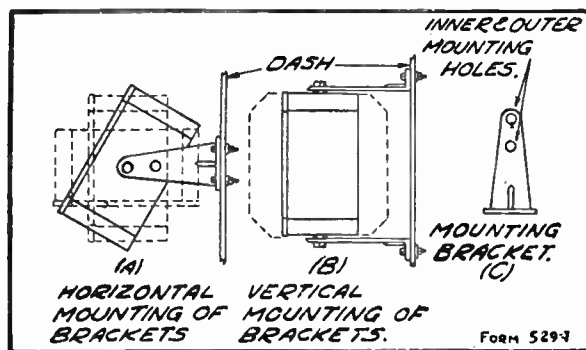

Fig 5—Method of Mounting Speaker
The speaker-"B" eliminator is mounted on the back of the dash by means of two brackets, as shown in Fig. 5. Usually the space available will govern the location of the speaker and position of it on the mounting brackets. However, the matter of acoustics should be given careful consideration. One of the most desirable positions from the standpoint of
After the position of the speaker is decided on, drill the four $\frac{5}{16}$ " holes required for the bracket mounting bolts. A template for these holes is supplied with the receiver. The holes are arranged in a rectangle. The centers of the holes, the small dimension are $2\frac{3}{8}$ " apart and the long dimension 10" apart. In Fig. 5 is shown how the brackets can be mounted horizontally (A) or vertically (B), and the different positions in which the speaker itself can be placed. There are two holes in each bracket as shown in Fig. 5 (C) which determine the distance of the speaker box from the dash. The grilled portion of the box at the front should face the listener.
acoustics is that shown by the solid lines in Fig. 5 (A). In this position the sound waves travel in the most direct lines toward the listener. After the